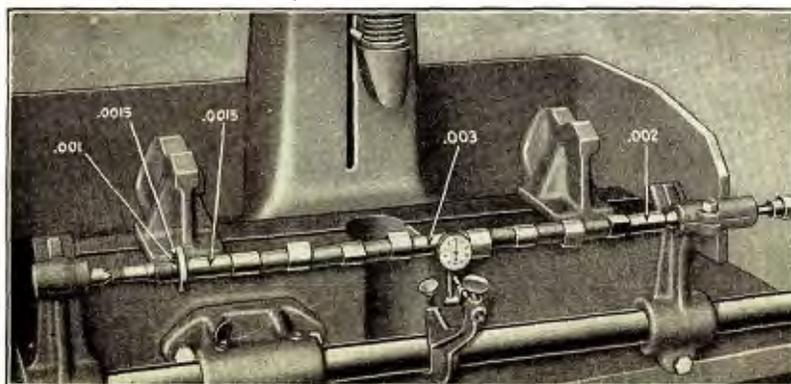
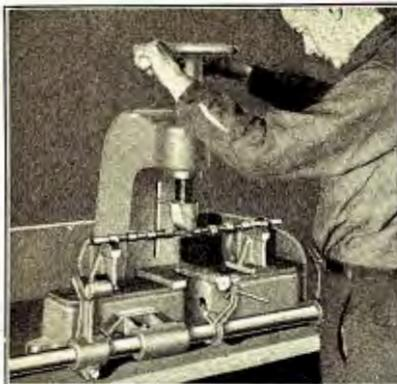

Fig. 286
Fig. 287
- 479** The alignment of the camshaft is checked by placing it on centers as shown in Fig. 286. Before placing shaft on centers inspect center holes in shaft to see that they are free from dirt or burrs. Scrape out any burr or dirt which may be in the center holes, as any foreign matter in the holes is likely to cause the shaft to run out. The amount the shaft runs out is measured by a dial indicator reading in one thousandths of an inch. A ball point plunger rests on the bearings to be indicated; the shaft is then slowly turned, while the operator
watches the dial. Any slight variation in the surface of the shaft is noted by the movement of the hand on the dial. The camshaft should run out no more than the limits given in Fig. 286. The high side of the shaft should be noted and the shaft straightened in a press as shown in Fig. 287. When straightening a shaft it is always advisable to first bend it far enough in the opposite direction to which it is bent, so that it will be distorted the other way. The shaft is then brought to normal from this side. This prevents any tendency of the shaft to spring out of line again.